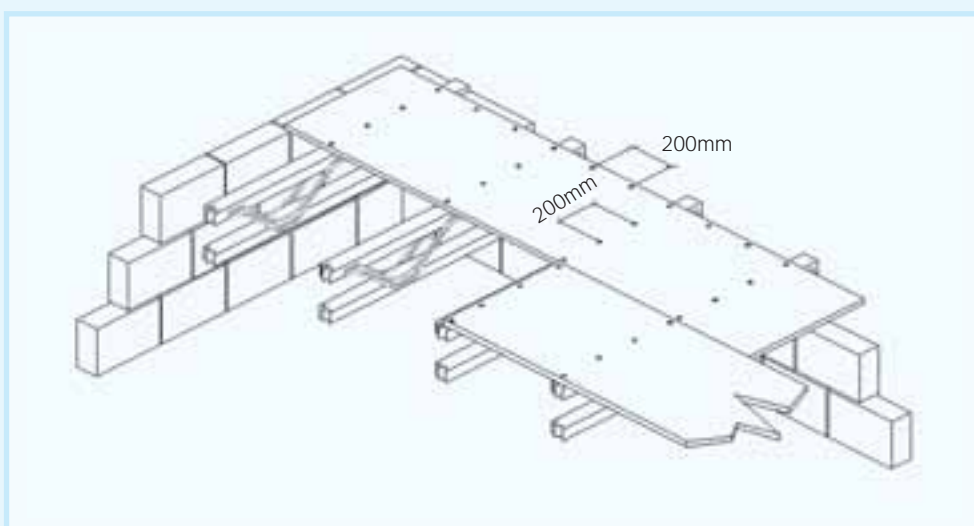

FIGURE 2
- Fixings – 3mm $\varnothing$  nails or screws with a minimum length equal to 2.5 x board thickness. Nails or screws should be positioned 8mm from the board edge and at 200mm c/c along all supports and edges. (see figure 2). Boards should be glued to the joists and the tongued and grooved joints should also be glued. A PVAC adhesive conforming to durability class D1 of BS EN 204 should be sufficient for these applications.